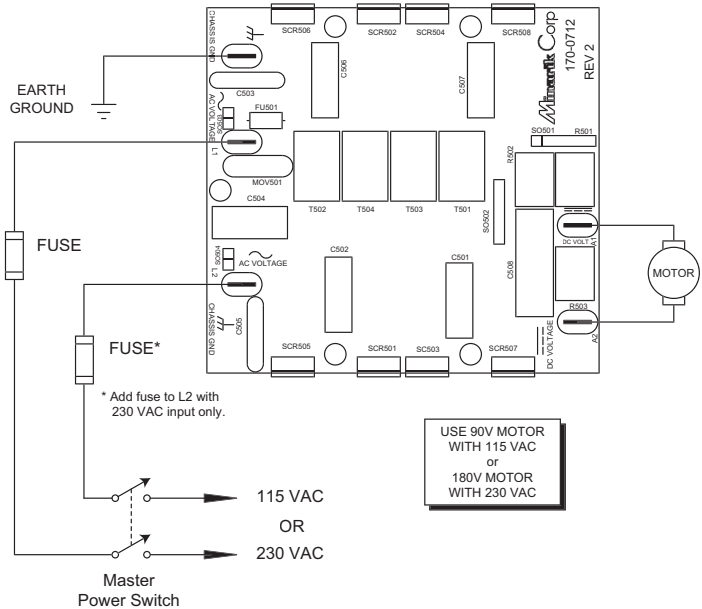

Figure 10. MMRGD Power, Motor and Fuse Connections (Bottom Board)
- Mount the drive with its board in either a horizontal or vertical plane. Eight (8) 0.188 inch [4.8 mm] wide slots in the chassis accept #8 pan head screws. Fasten either the large base or the narrow flange of the chassis to the subplate.
- The drive must be earth grounded for noise suppression. Connect earth ground to the earth ground terminal on the drive's bottom board (see Figure 10, page 19, for location).
When installing an MMRGD series drive, Minarik strongly recommends the installation of a master power switch in the voltage input line, as shown in Figure 10, page 19.
Connect the power input leads, an external line fuse and a DC motor to TB501 on the drive's printed circuit board (PCB) as shown in Figure 10, page 19.
Connect a DC motor to PCB terminals A1 and A2 as shown in Figure 10, page 19. Ensure that the motor voltage rating is consistent with the drive's output voltage.